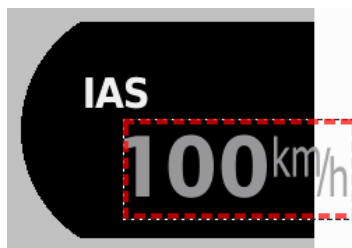

Figure 21: Incorrect alignment after value change
**Step 2 (Figure 21):** I changed the TEST VALUE to 100 km/h, to see the behavior of the *Left* alignment.